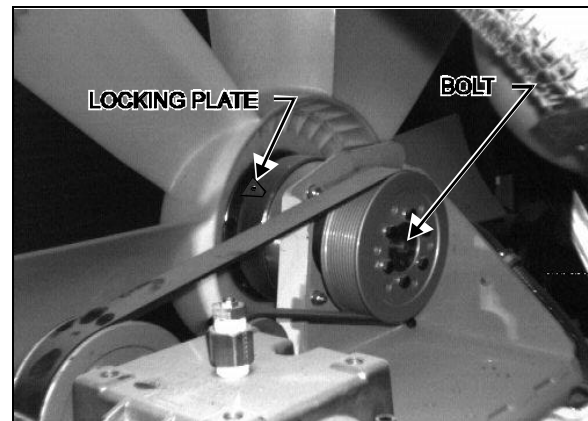

FIGURE 13: MECHANICAL LOCKING DEVICE 05033
**Caution:** Mechanical locking device. In case of an electrical power failure: unscrew the bolt from the end of the shaft and screw it into the locking plate. This procedure will prevent engine overheating (Fig. 13).